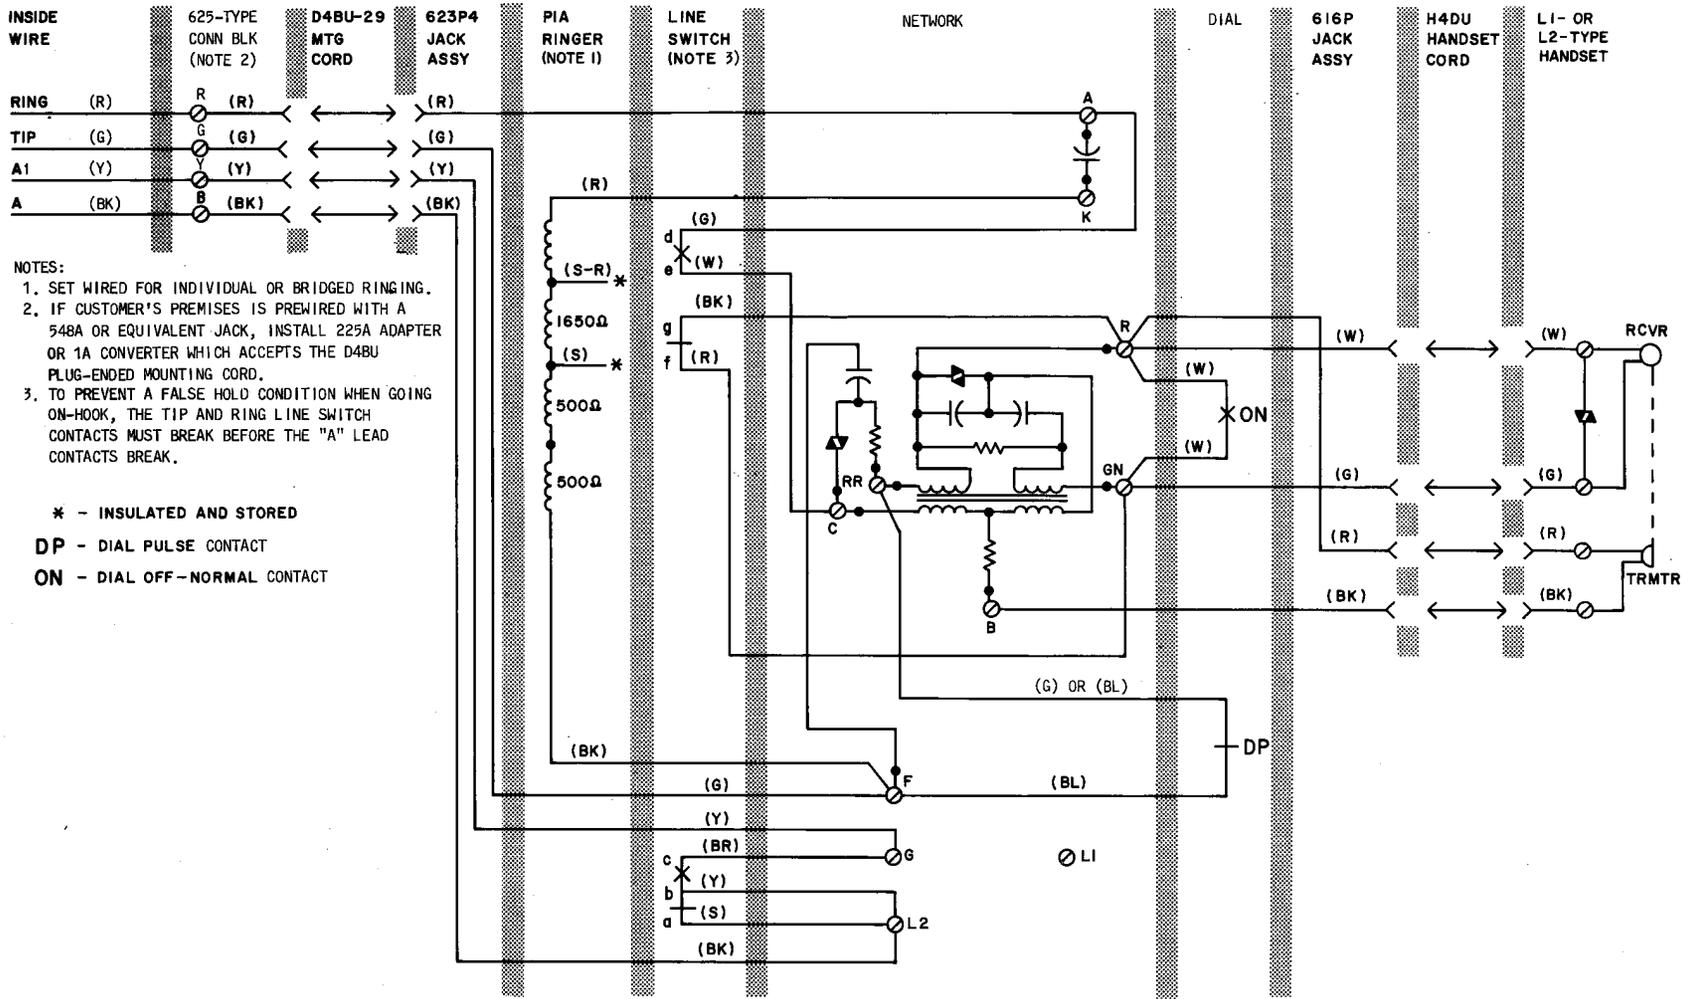

Fig. 5—940A (MD), 940B (MD), and 940C (MD) Telephone Set Connections, Wired for 1A1 or 1A2 KTS
3.04 Connections for use with 1A1 or 1A2 KTS are shown in Fig. 5. Table C includes necessary wiring modifications required for 1A1 or 1A2 key telephone system use.